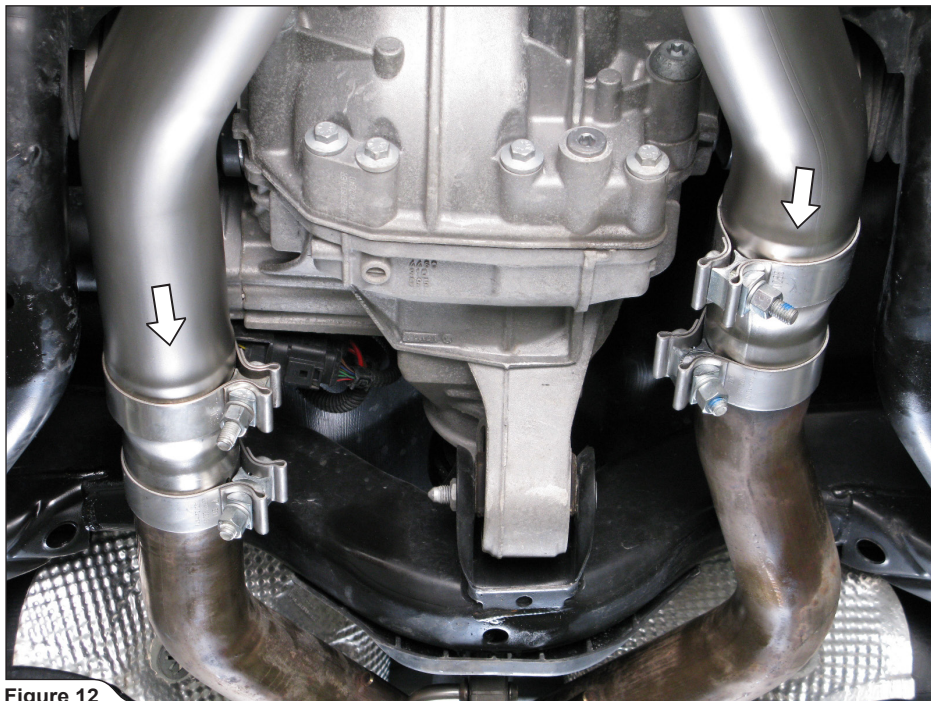

Figure 12
4. **For Turbo, Turbo S, S, V6 and Hybrid models only:** slide the muffler link pipes all the way onto the stock middle pipes (**Figure 12**).